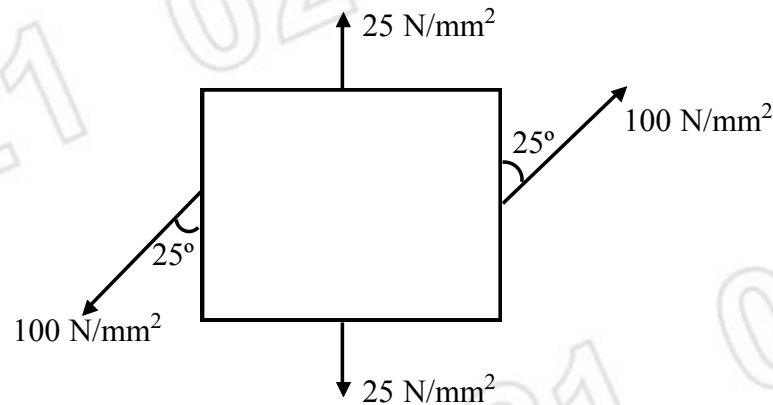

Fig.4
11. A point in strained material is subjected to stress as shown in fig. 4. Find